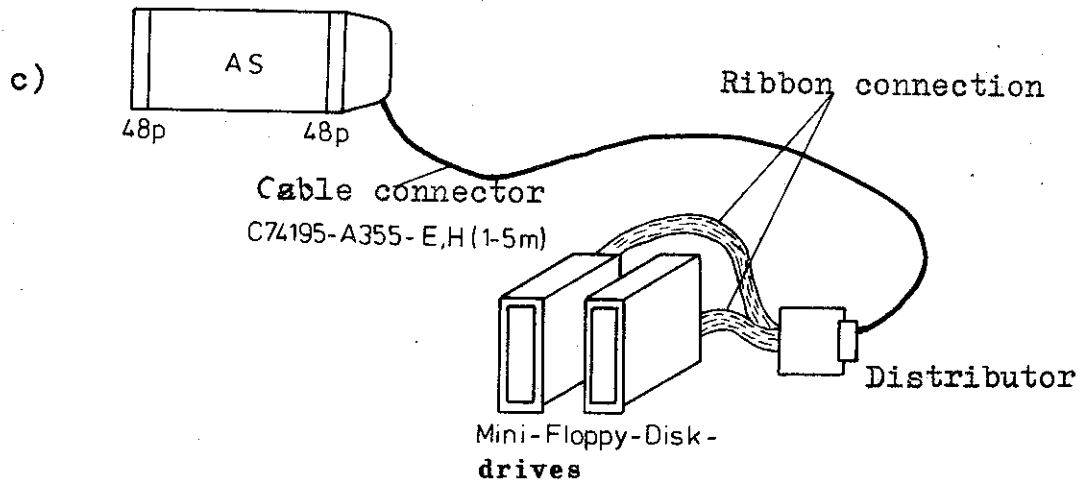
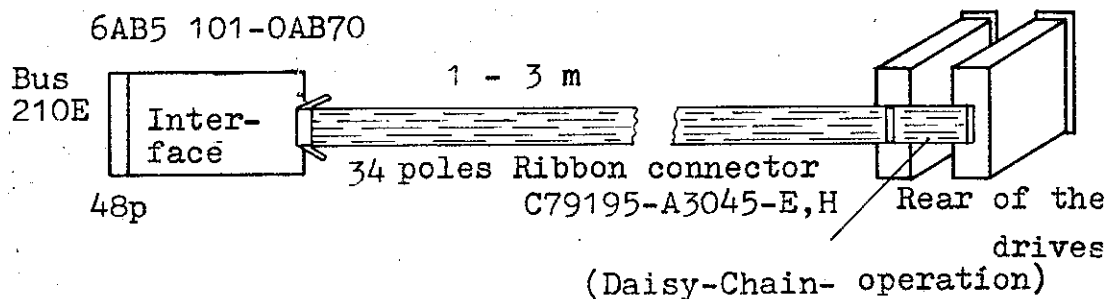

Fig. 2 Model 1 of the interface module
Fig.3 Model 2 of the interface modul
(Fig. 2)
- One 48-pole ES902 front plug for connection of standard drives (Fig. 2, a, b) and one 34-pole front plug for connection of MFD-LW (Fig. 3).